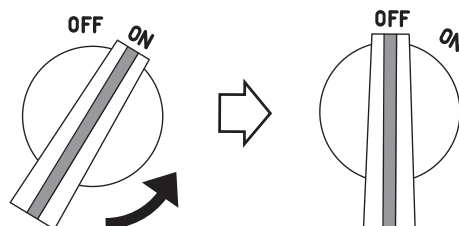

Figure 19. Engine ON/OFF Switch (OFF Position)
2. Place the engine **ON/OFF** switch (Figure 19) in the **OFF** position.